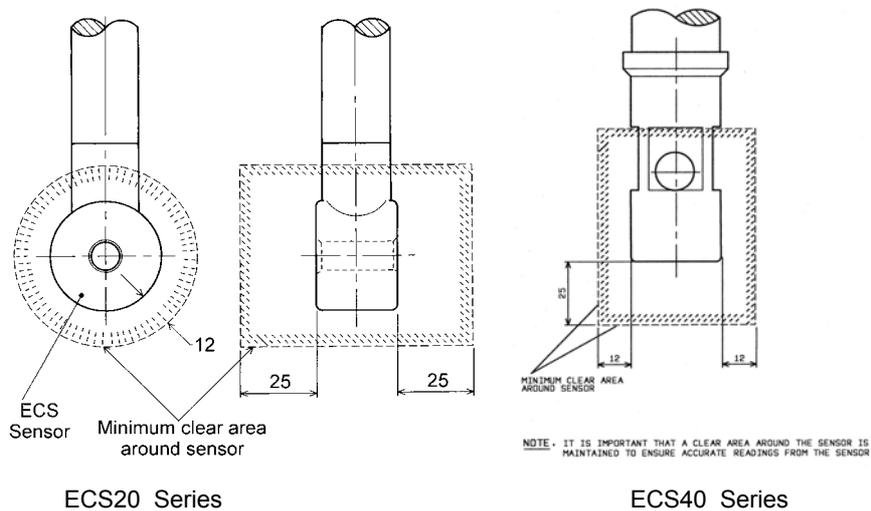

Figure 8 Sensors
- The electrodeless sensor will need a minimum clearance around it when installed or making measurements in a sample. Do not rest it on the bottom of a tank or vessel. See Figure 8 for details.